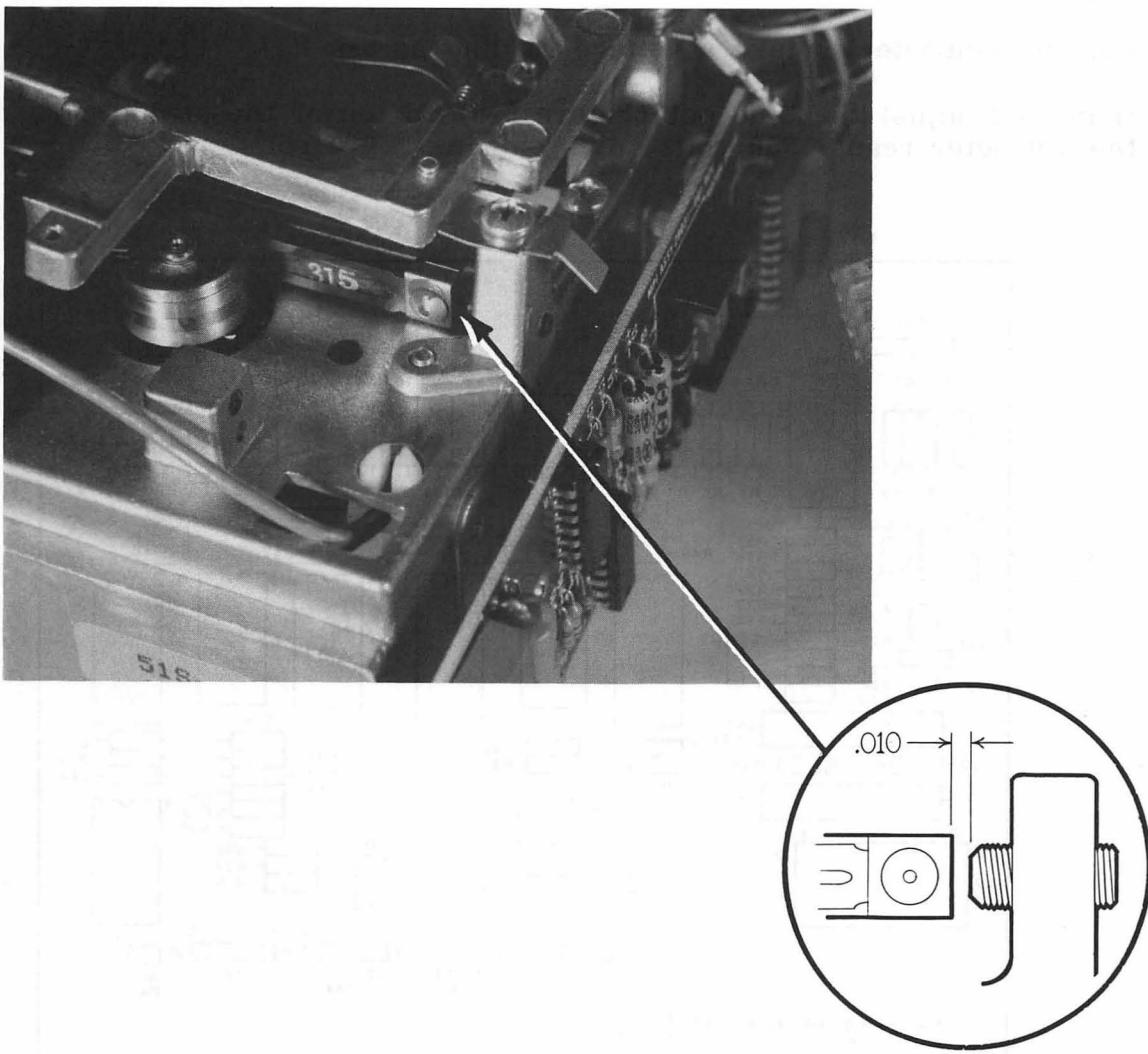

Figure 6-5. Adjustment Screw
3. Use slash key (/) to position the head at track 00. Check distance from head assembly to set screw. Figure 6-5.